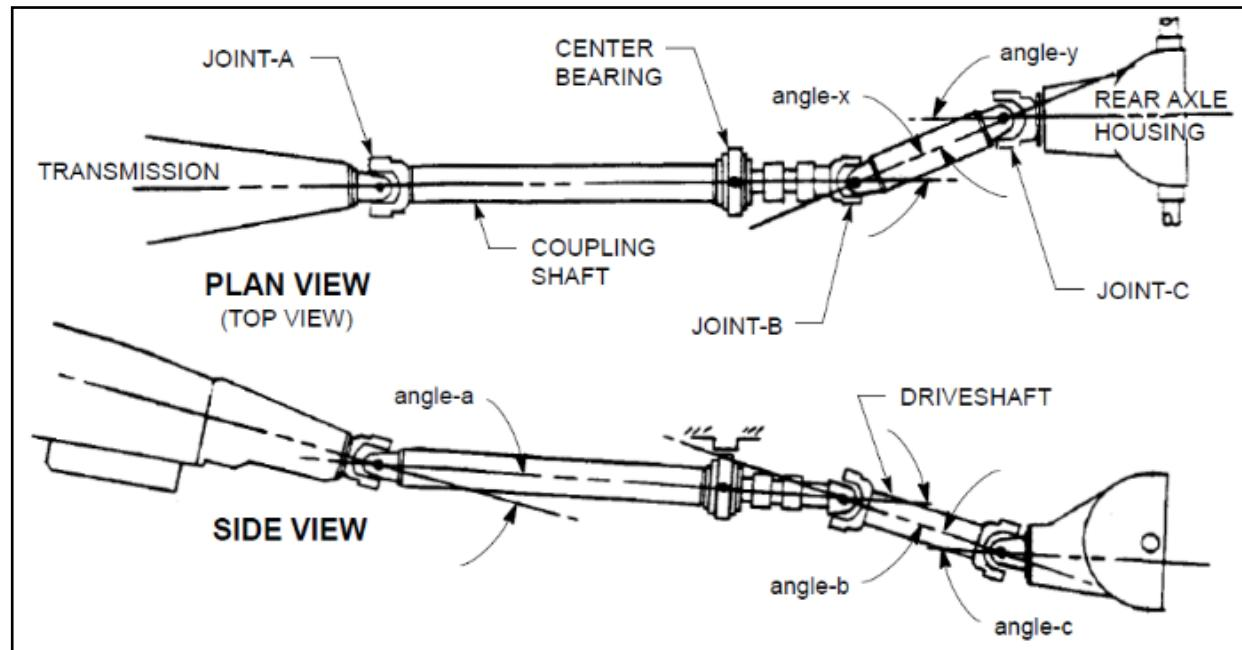

Figure 24 – Example Driveline System
1) The NET OPERATING ANGLE, at any individual joint, must be at least 0.5 degree, and not exceeding 3.0 degrees. The NET OPERATING ANGLE (Θ) is equal to the root sum of squares (RSS) of the side and plan view angles between two segments of the drivetrain (See Figure 23). Figure 24 illustrates a typical driveline system. Using this figure, the Net Operating Angle of each joint would be calculated as shown in Figure 25.